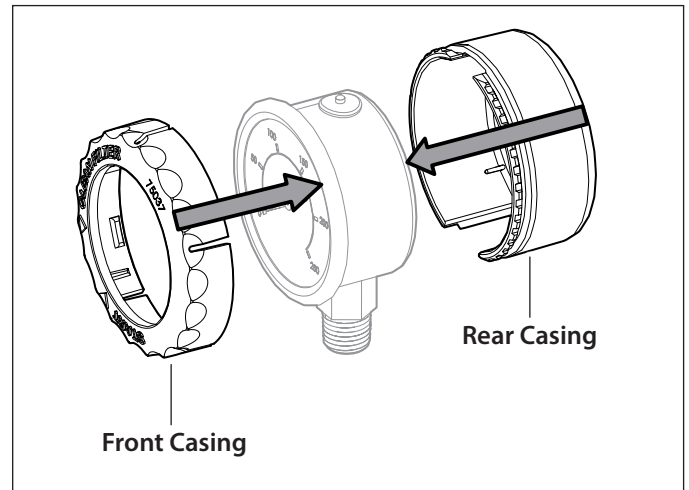

Figure 9. Pressure Gauge Casings
11. Assemble the pressure gauge with front and rear casings (Figure 9).